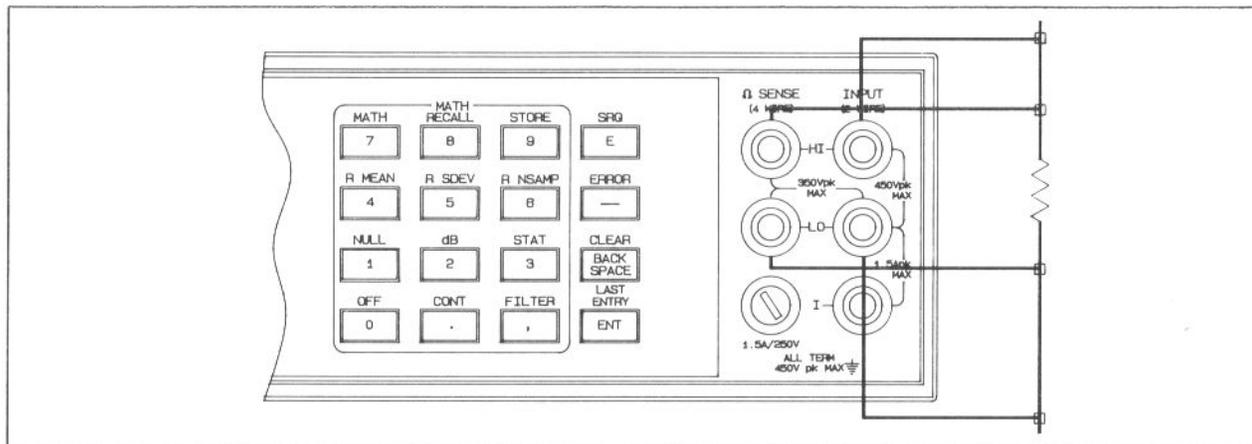

Figure 4-18. 4-Wire Ohms Operational Verification Test Connections
2. Connect the appropriate Resistance Standard to the HP 3457A front panel input terminals as shown in Figure 4-18.